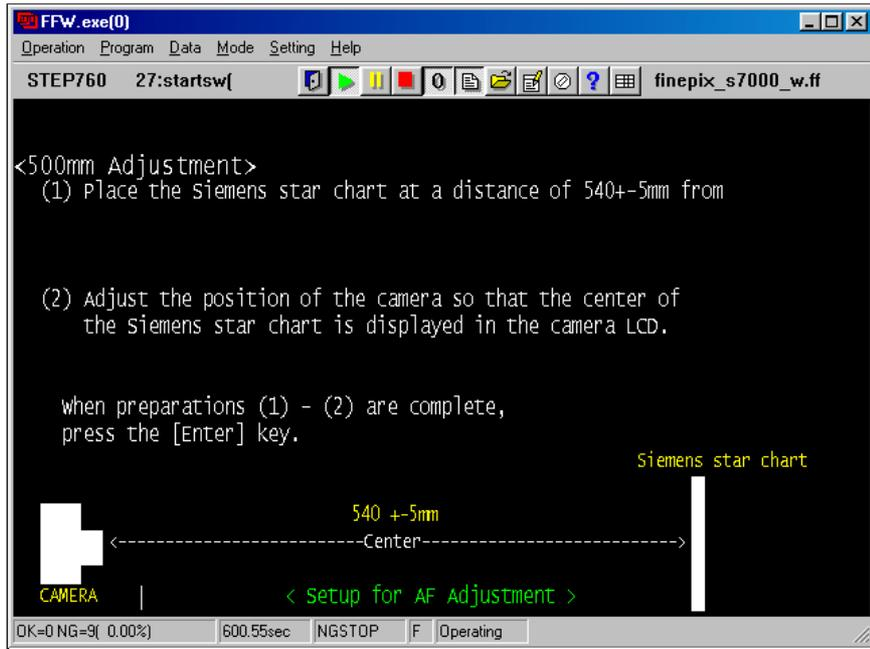

Fig.25
--->The [AF 500mm Adjustment Start screen(Fig25)] appears.